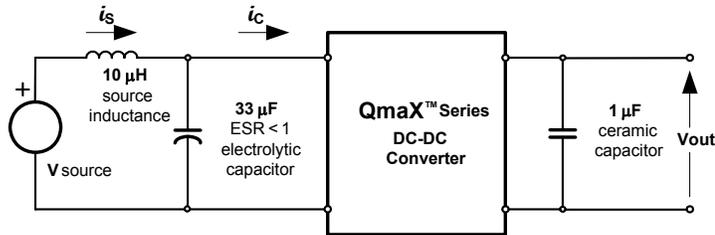

Fig. 2.5V.11: Test Setup for measuring input reflected ripple currents,  $i_c$  and  $i_s$ .
**Fig. 2.5V.1:** Available load current vs. ambient air temperature and airflow rates for QM48T45025 converter with B height pins mounted vertically with  $V_{in} = 48\text{ V}$ , air flowing from pin 3 to pin 1, and MOSFET temperature  $\leq 120\text{ }^\circ\text{C}$ .
**Fig. 2.5V.2:** Available load current vs. ambient air temperature and airflow rates for QM48T45025 converter with B height pins mounted horizontally with  $V_{in} = 48\text{ V}$ , air flowing from pin 3 to pin 1, and MOSFET temperature  $\leq 120\text{ }^\circ\text{C}$ .
**Fig. 2.5V.3:** Efficiency vs. load current and input voltage for converter mounted vertically with air flowing from pin 3 to pin 1 at a rate of 300 LFM (1.5 m/s) and  $T_a = 25\text{ }^\circ\text{C}$ .
**Fig. 2.5V.4:** Efficiency vs. load current and ambient temperature for converter mounted vertically with  $V_{in} = 48\text{ V}$  and air flowing from pin 3 to pin 1 at a rate of 200 LFM (1.0 m/s).
**Fig. 2.5V.5:** Power dissipation vs. load current and input voltage for converter mounted vertically with air flowing from pin 3 to pin 1 at a rate of 300 LFM (1.5 m/s) and  $T_a = 25\text{ }^\circ\text{C}$ .
**Fig. 2.5V.6:** Power dissipation vs. load current and ambient temperature for converter mounted vertically with  $V_{in} = 48\text{ V}$  and air flowing from pin 3 to pin 1 at a rate of 200 LFM (1.0 m/s).
**Fig. 2.5V.7:** Turn-on transient at full rated load current (resistive) with no output capacitor at  $V_{in} = 48\text{ V}$ , triggered via ON/OFF pin. Top trace: ON/OFF signal (5 V/div.). Bottom trace: output voltage (1 V/div.). Time scale: 2 ms/div.
**Fig. 2.5V.8:** Turn-on transient at full rated load current (resistive) plus 40,000  $\mu\text{F}$  at  $V_{in} = 48\text{ V}$ , triggered via ON/OFF pin. Top trace: ON/OFF signal (5 V/div.). Bottom trace: output voltage (1 V/div.). Time scale: 2 ms/div.
**Fig. 2.5V.9:** Output voltage response to load current step-change (22.5 A – 33.75 A – 22.5 A) at  $V_{in} = 48\text{ V}$ . Top trace: output voltage (100 mV/div.). Bottom trace: load current (10 A/div.). Current slew rate: 1 A/ $\mu\text{s}$ .  $C_o = 470\text{ }\mu\text{F}$  tantalum + 1  $\mu\text{F}$  ceramic. Time scale: 0.2 ms/div.
**Fig. 2.5V.10:** Output voltage ripple (20 mV/div.) at full rated load current into a resistive load with  $C_o = 10\text{ }\mu\text{F}$  tantalum + 1  $\mu\text{F}$  ceramic and  $V_{in} = 48\text{ V}$ . Time scale: 1  $\mu\text{s}$ /div.
Fig. 2.5V.12: Input reflected ripple current,  $i_s$  (10 mA/div), measured through 10  $\mu$ H at the source at full rated load current and  $V_{in} = 48$  V. Refer to Fig. 2.5V.11 for test setup. Time scale: 1  $\mu$ s/div.
Fig. 2.5V.13: Input reflected ripple current,  $i_c$  (100 mA/div), measured at input terminals at full rated load current and  $V_{in} = 48$  V. Refer to Fig. 2.5V.11 for test setup. Time scale: 1  $\mu$ s/div.
Fig. 2.5V.14: Output voltage vs. load current showing current limit point and converter shutdown point. Input voltage has almost no effect on current limit characteristic.
Fig. 2.5V.15: Load current (top trace, 20 A/div, 20 ms/div) into a 10 m $\Omega$  short circuit during restart, at  $V_{in} = 48$  V. Bottom trace (20 A/div, 1 ms/div) is an expansion of the on-time portion of the top trace.